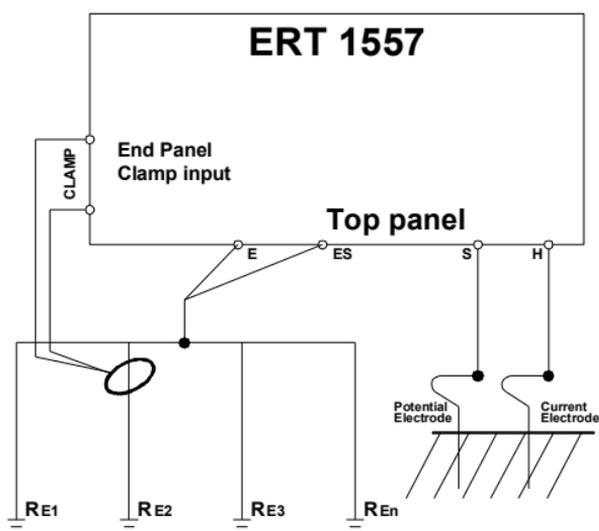

Figure 4
- 5.4.3 Connect the H and S test leads to the 2 test spikes as shown in figure 4.